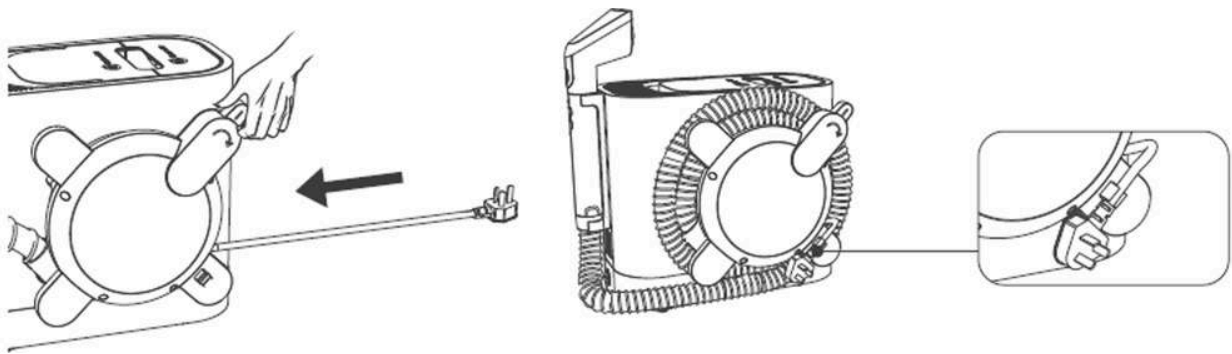

Fig. 12
10. Press the auto cord-winding button to put the power cord away and fix the plug on the fastener, and then wind the hose on the cord winding rack neatly (see Fig.12).